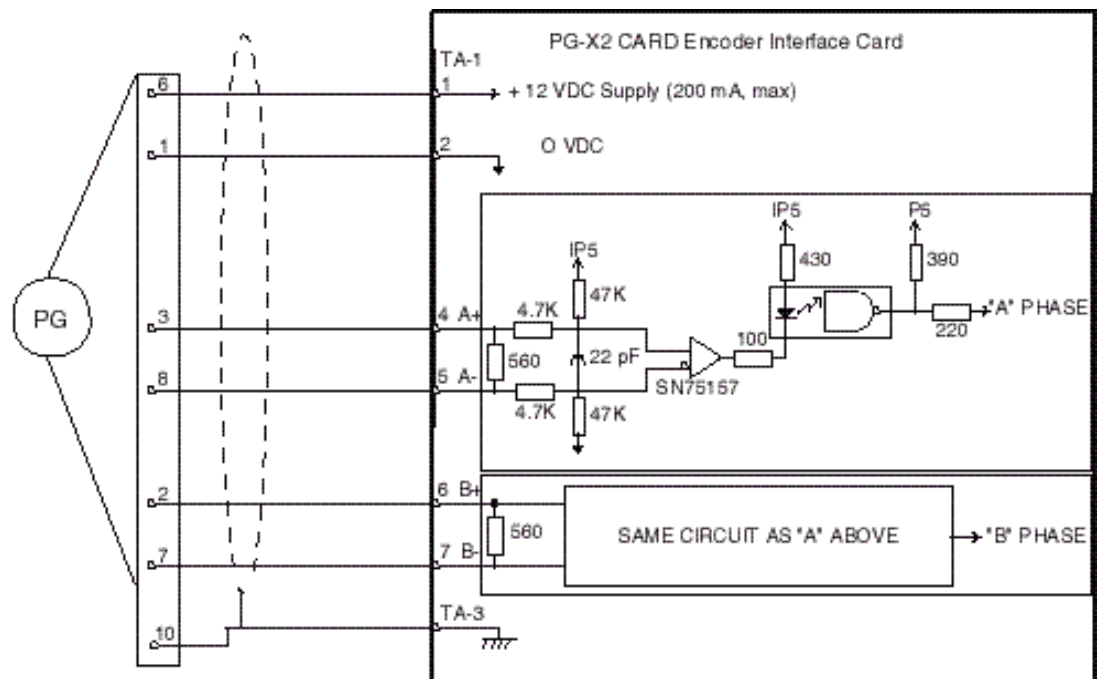

Figure 3-29: LakeShore Model 8500 Encoder
2. Connect the encoder to the PG-X2 Encoder Interface Card. Refer to Figure 3-29: “Generic Encoder” and Figure 29: “PG-X2 Interface Card Terminal Functions” on page 3-36.